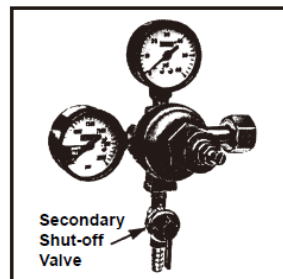

Figure 11
- Make sure the secondary shut-off valve (shown in **Figure 11** in 'Open' position) is closed. To open the main CO2 cylinder valve, slowly turn the main valve counter-clockwise until fully open.